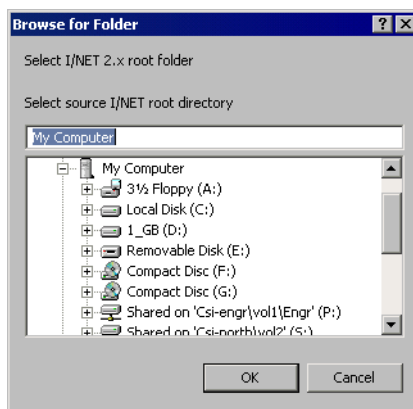

Figure 2-22. Browsing for the TAC I/NET 2000 Root Directory
- a. Use the **Browse...** button to locate the TAC I/NET 2000 root directory (see Figure 2-22).